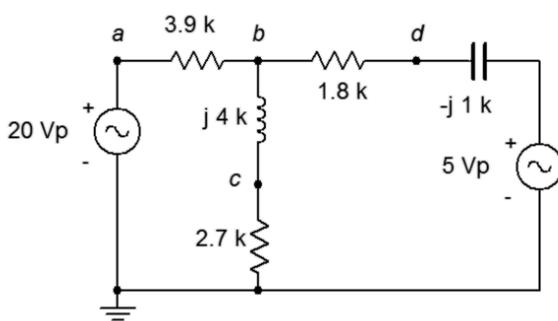

Figure 5.5
9. In the circuit of Figure 5.5, use Superposition to find  $v_b$  and  $v_{cd}$ . The sources are in phase.
10. In the circuit of Figure 5.5, use Superposition to find the current through the capacitor. The sources are in phase.